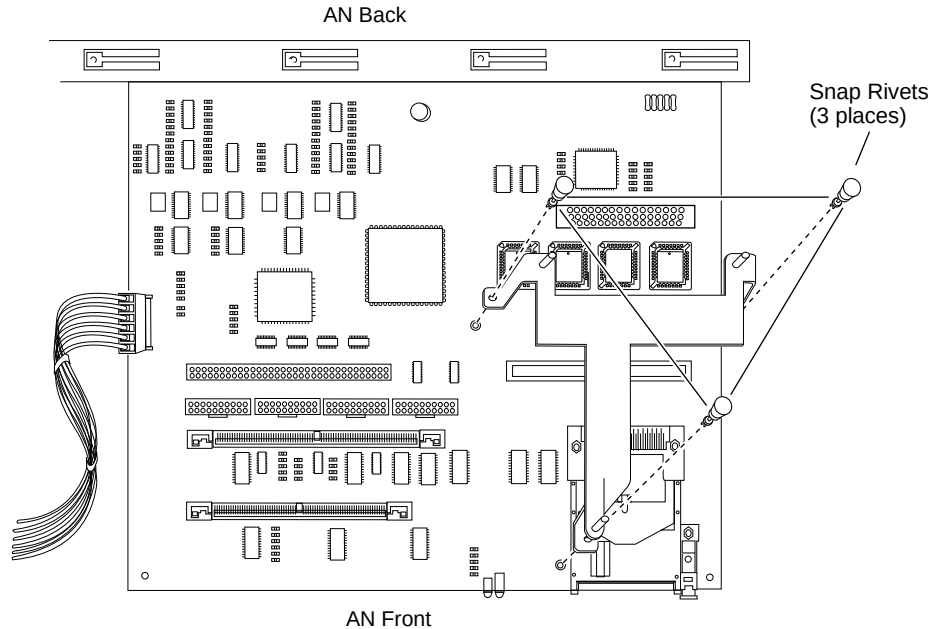

Figure 1-3. Installing the DCM Mounting Bracket on the AN Base Board
1. **Align the three holes in the mounting bracket with the appropriate base board holes (Figure 1-3).**